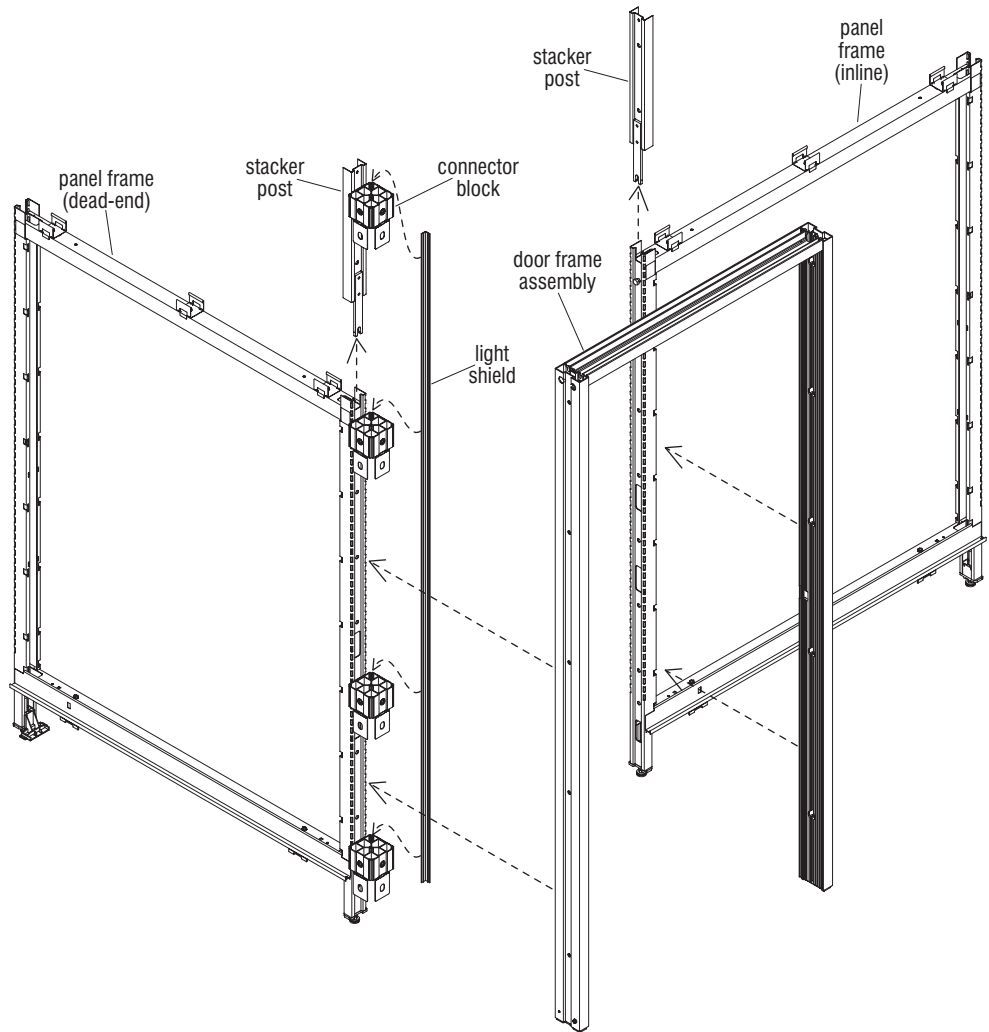

Figure 2
3. Prior to installation of door frame assembly, remove tiles and stacker posts from panel frames adjacent to door frame location. Set tiles and any removed stacker posts aside until reassembly at a later time (Figure 2).
4. Ensure that the door frame opening between panel frames is exactly 36" or 42" wide (depending on model). Adjust if necessary for correct fit (Figure 2).
5. Ensure that all intersection connector blocks are installed, then snap a plastic light shield to connector blocks (Figure 2).
6. Carefully lift and set the door frame assembly into position between panel frames (Figure 2).